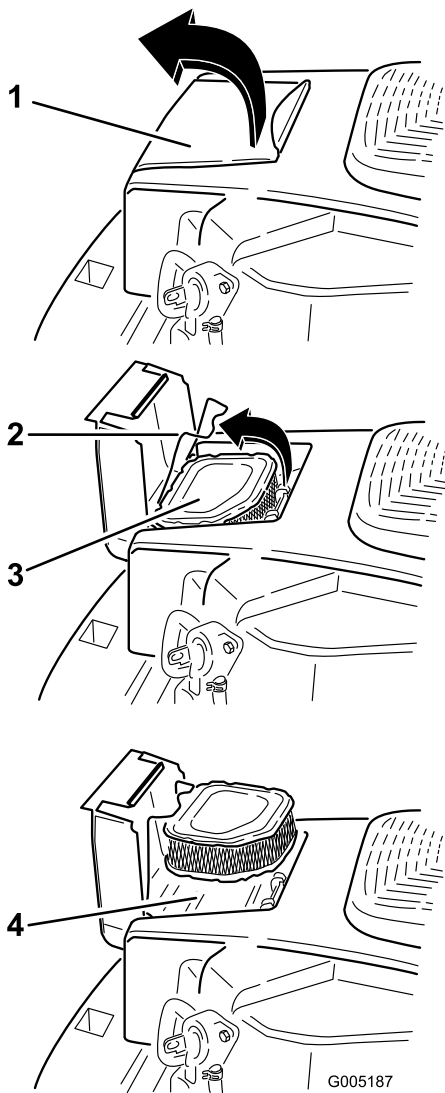

Figure 24
1. Open the air cleaner cover door on the blower housing to access the air cleaner element (Figure 24).
2. Unhook the latch and remove the air cleaner element (Figure 24).